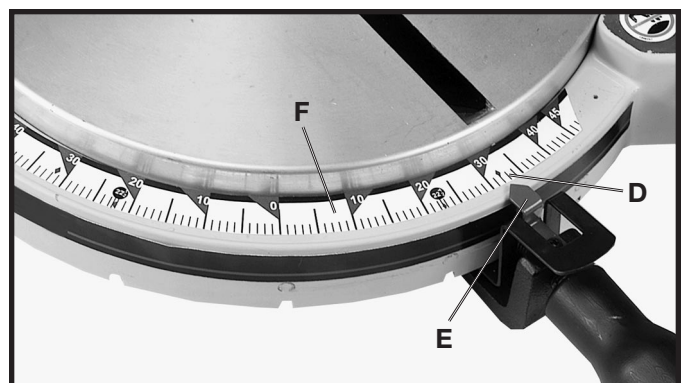

Fig. 16
In addition, a triangle indicator (D) Fig. 16 is provided on the miter scale at the 31.6 degrees right and left miter positions for cutting crown moulding. (Refer to the “**CUTTING CROWN MOULDING**” section of this manual).
A pointer (E) Fig. 16 is supplied to indicate the actual angle of cut. Each line on the scale (F) represents 1 degree. When the pointer is moved from one line to the next on the scale, the angle of cut is changed by 1 degree.